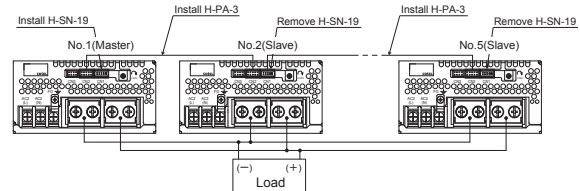

Fig.3.3 Example of parallel connection(PDA600F)
- You can use the power supplies in parallel operation by connecting units as shown in Fig.3.3.